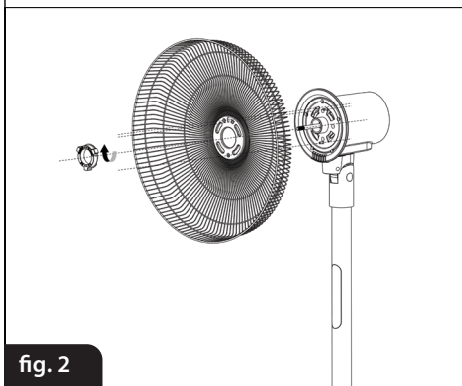

fig. 2
4. Place the rear propeller mesh casing (5) on the motor pin and tighten its protective nut (4); ensure precise installation of these elements (Fig. 2).